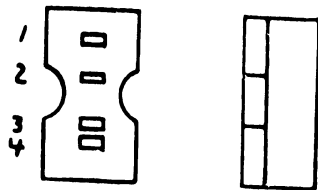

FIGURE 4-43 DIABLO HEAD CONNECTOR
- f. This head cable (Figure 4-43) plugs into Diablo disk drives (Models 43, 44A, and 44B).